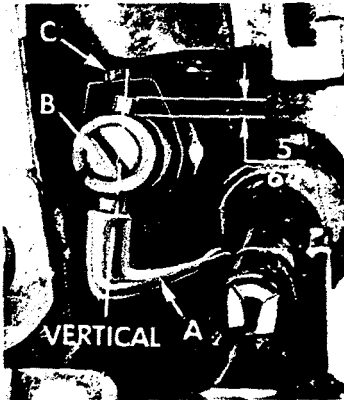

Fig. 6
Insert upper looper (A, Fig. 6) in its holder. Screw (B) holds the looper in its holder and permits looper to be pushed in or out, or turned around its shank. Screw (C) on the collar, holds looper holder in the shaft and allows the holder to be rotated or adjusted laterally.
**Preliminary Setting:** When looper is at the right end of its stroke, looper holder should be set to position the looper shank about vertical (Fig. 6). The top end of the looper shank should extend approximately 5/64 inch above holder (Fig. 6).